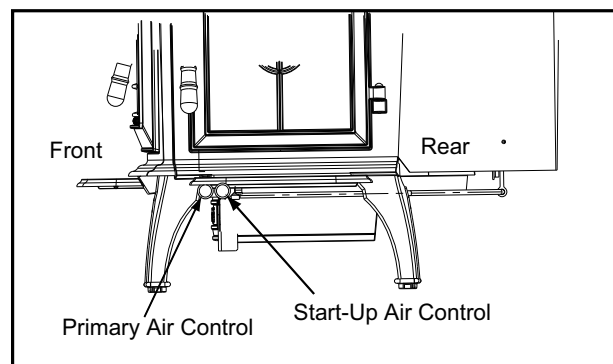

Figure 19A
As you face the stove, the air control on the right (furthest back) is called the Start-Up Air Control. It is used during the kindling stage of burning. It must be closed (pulled out) after the first 5 to 15 minutes. **See Figure 19A on page 19.**
The next stage of burning, the secondary stage, is the period when the wood gives off flammable gases which burn above the fuel with bright flames. During this stage of burning it is very important that the flames be maintained and not allowed to go out. This will ensure the cleanest possible fire. If you are adjusting your stove for a low burn rate, you should close down the air to the point where you can still maintain some flame. If the flames tend to go out, the stove is set too low for your burning conditions. The front air control closest to the front of the stove is the one used to adjust the stove for burn rates. This is called the Primary Air Control. **See Figure 19A on page 19.**
The combustion air enters at the rear of the firebox through the rear air tubes. This air supply is controlled by the Start-up Air Control. For more air push control **IN**, for less air pull control **OUT**. See **Figure 19A**.
2. Regulate burn rate (heat output) by using the Primary Air Control (front control). The Start-Up Air Control (rear control) is for initial start-up and reloading. **See Figure 19A on page 19.**